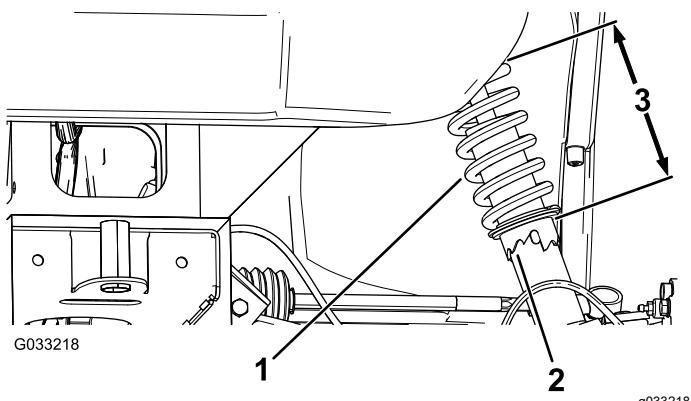

Figure 48
2. If the wheel camber is out of alignment, use the spanner wrench to rotate the collar on the shock absorber to align the wheel (Figure 48).